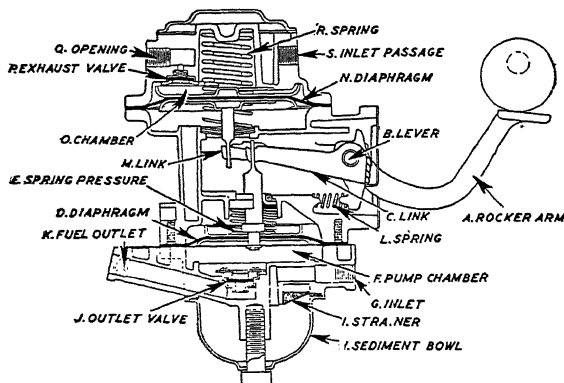

Fig. 11. Pontiac Fuel and Vacuum Pump
**Pontiac Fuel and Vacuum Pump.** The combination of a fuel and vacuum pump operated from the same lever and cam on the camshaft is common practice in many cases. The fuel pump is designed to provide a constant flow of fuel to the carburetor, and the vacuum pump is designed to provide a uniform vacuum for operation of the windshield wiper. Thus, we have established as between the vacuum pump and the windshield wiper vacuum control in ratio to the engine speed. It will be noted in Fig. 11 that a rocker arm *A* is operated from the eccentric. The rotation of this eccentric on the camshaft causes the rocker arm *A* to be forced downward and this in turn through its contact with the lever *B* causes the link *C* to be raised and this in turn through its connection, raises the diaphragm *D*. As this diaphragm *D* moves upward against the spring pressure *E*, vacuum is created within the pump chamber *F*. This is the suction stroke of the fuel pump and serves to draw gasoline from the supply tank at the rear of the car through the inlet *G*, at which point it enters the sediment bowl *H* and then